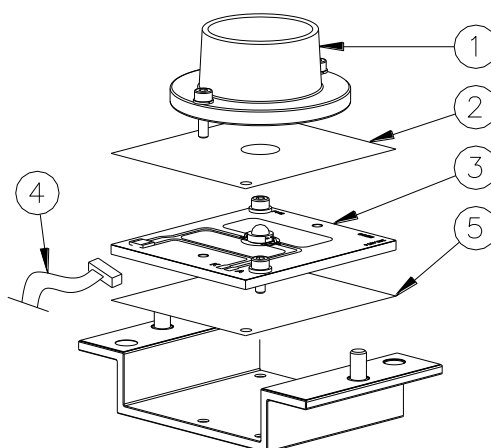

Figure 24 – LED Module Replacement
- disconnect the power supply connector from the LED module (Figure 24 – n°4)
- remove the LED module (Figure 24 – n°3) and the relevant reflector (Figure 24 – n°1) from the mounting plate unscrewing the two screw HSCS M3x16
- check that the thermal interface (Figure 24 – n°5) is placed under the LED module and right-positioned
- check that the Kapton insulating sheet (Figure 24 – n°2) is placed over the LED board is lying down and right-positioned
- reconnect the power supply connector (Figure 24 – n°4) to the LED module